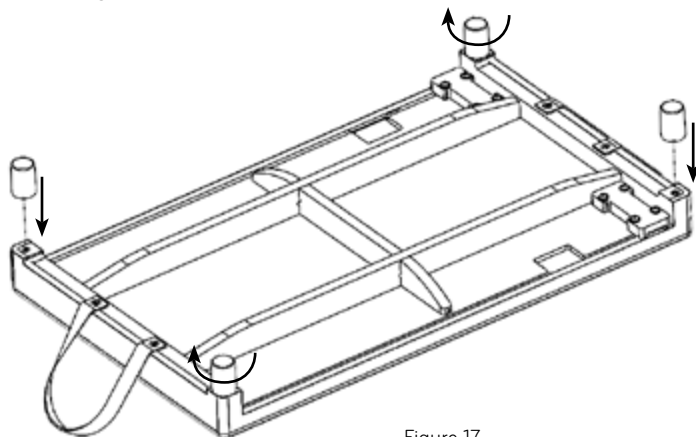

Figure 17
2. Find the (4) feet with a thread sticking out and thread them into the corner inserts on the bottom side of the mat conversion.
3. Turn them clockwise until tight. Hand tight is okay. See Figure 17.